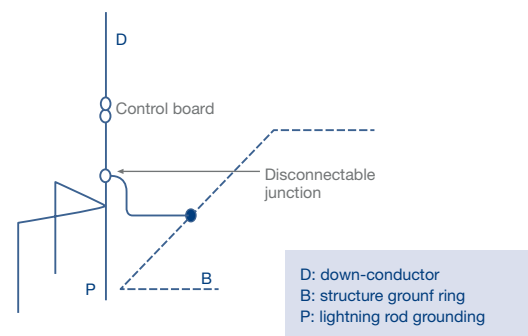

Fig. 16 – Example of grounding of type A2. The stakes will be linked by a conductor with the same characteristics and section of the down-conductor.
**TYPE A2:** Formed by the union of many inline or triangle vertical stakes and separated by a distance of at least equal to its length (see Fig. 16).